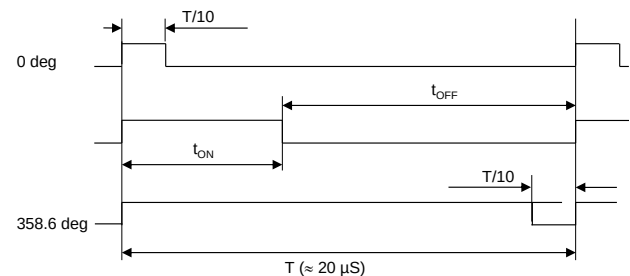

Figure 16: Timing Diagram of the PWM Output
This output provides a logic signal with a duty cycle proportional to the angle of the magnetic field. The PWM frequency is close to 50kHz (the nominal period is 20μs). The duty cycle is bounded by a minimum value (1/10 of the period) and a maximum value (9/10 of the period) (see Figure 16). This means that the duty cycle varies from approximately 10% to 90% with a resolution of eight bits. The angle can be retrieved by measuring the on time. Since the absolute PWM frequency can vary from chip to chip or with the temperature, accurate angle detection requires the measurement of both the on time (t_{ON}) and the off time (t_{OFF}). The angle can be calculated with Equation (5):